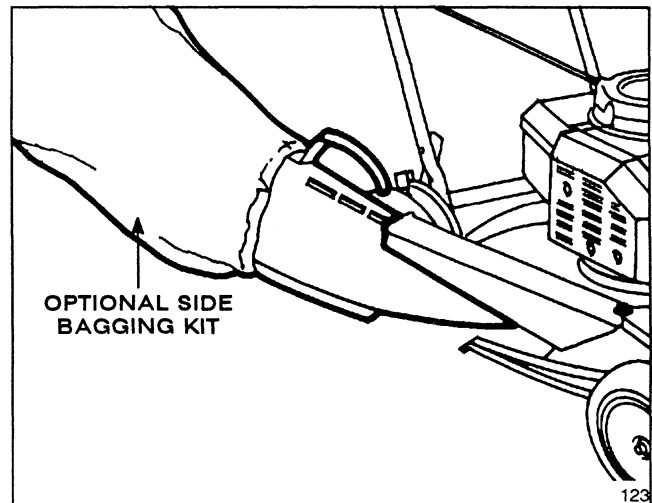

Figure 20
1. Side Discharge Bagging Kit, Model No. 47-6510—Side bag kit (Fig. 20) lets you bag lush grass in spring to help keep your lawn free of clippings. In the fall, bag leaves while you mow to eliminate the hand-blistering raking job.